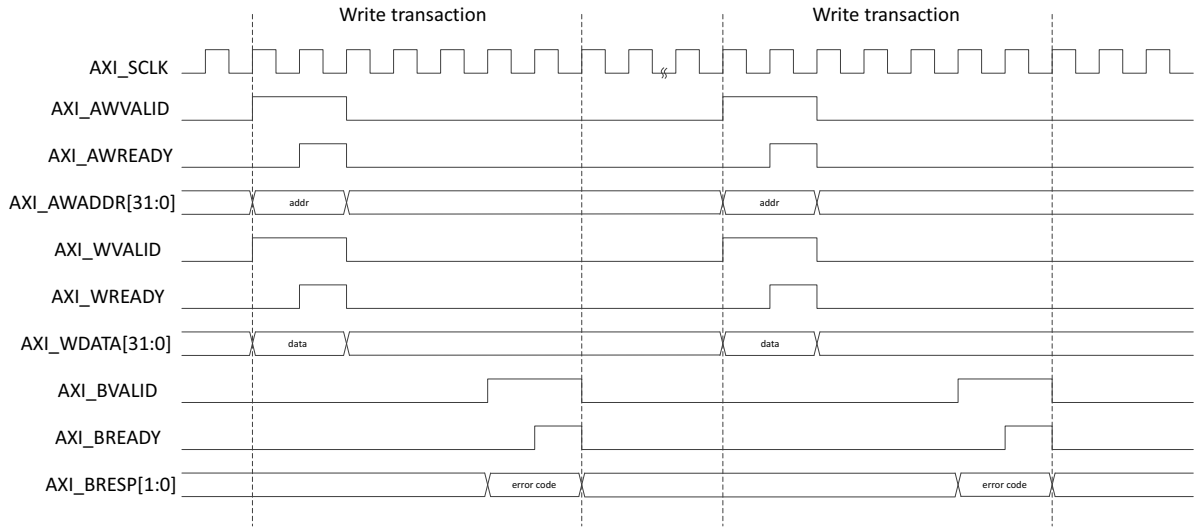

Figure 5-14: AXI4-Lite User Side Write Transaction with Illegal Write Address
- Invalid Write transactions (Figure 5-14)